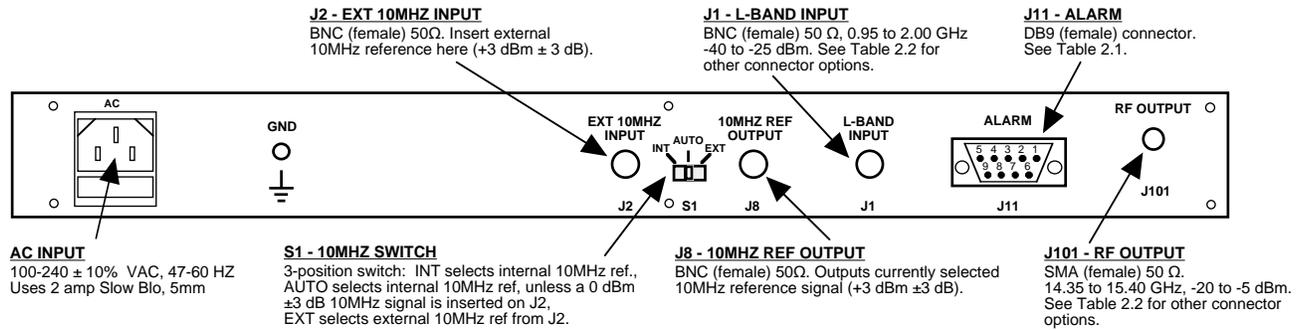

FIGURE 2.1 2115-143 Rear Panel I/O's
2.2 Rear Panel Input/Output Signals - Figure 2.1 shows the input and output connectors on the rear panel.
1. Connect a -40 dBm to -25 dBm signal to L-BAND INPUT, J1 (Figure 2.1).
5. Select either INT (for internal 10MHz ref), AUTO (for internal 10MHz ref UNLESS a external 10MHz, 3 dBm signal is connected to J2), or EXT (for external 10MHz, 3 dBm ref. that is inserted at J2) on rear panel switch S1 (Figure 2.1).
7. Check that a 10MHz, 3 dBm \pm 3 dB signal is present at the 10MHZ REF OUTPUT (J8) (Figure 2.1).